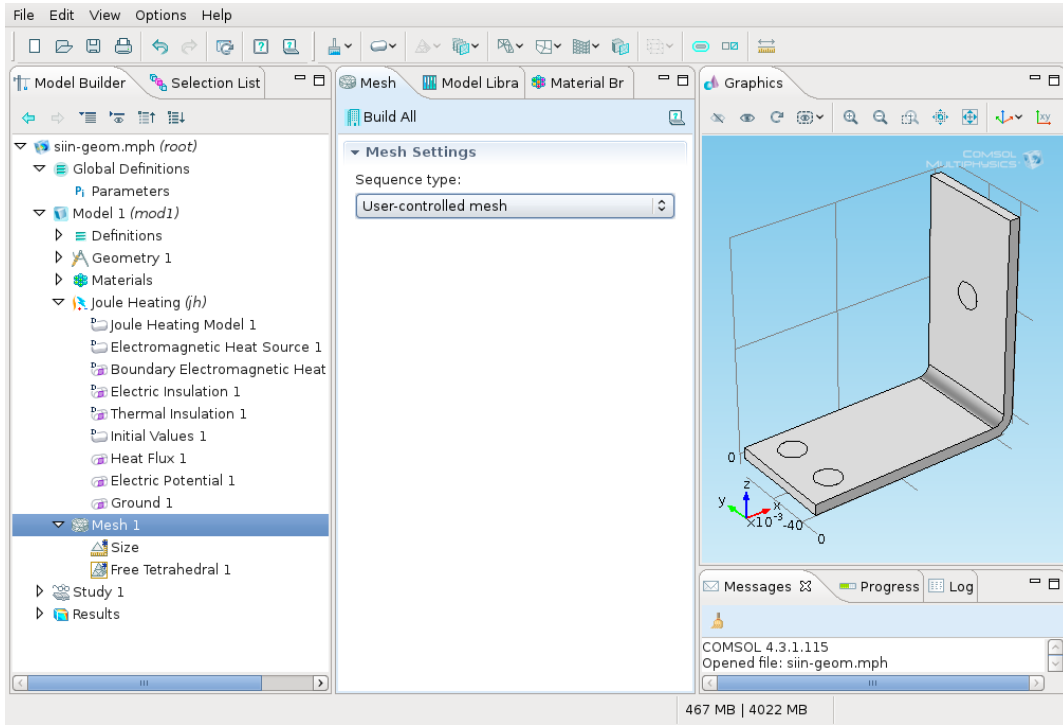

Figure 35: Controlling the mesh.
- 1 *Model Builder* → *Mesh 1* → *Sequence type* = *User-controlled mesh* (Fig. 35).